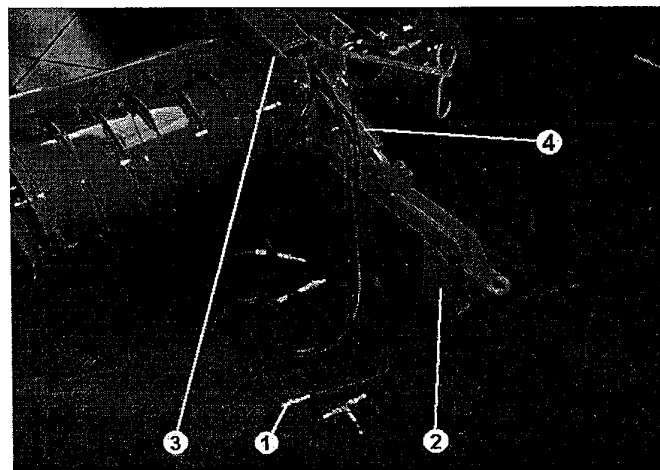

Fig 1
With the machine standing on firm, level ground, reverse the tractor up to the machine aligning the drawbar and pick-up hitch. Raise the machine on the pick-up hitch. Switch off the tractor engine and apply the handbrake before making any other connections. Remove the drawbar foot (item 2, fig 1) and place it in the storage position (item 3, fig 1). The drawbar foot must be re-positioned before disconnecting the machine from the tractor.
3. Connect the hydraulic hose from the drawbar lift ram (item 1, fig 1) to one of the tractor single acting spool valves.
The drawbar has a lift ram (item 4, fig 1) and when actuated, lifts the front of the machine clear of the ground. When in work the machine is lowered and because the lift ram (item 4, fig 1) is a single acting type and with the tractor hydraulics in float the machine is able to dig at a constant pre-set depth.